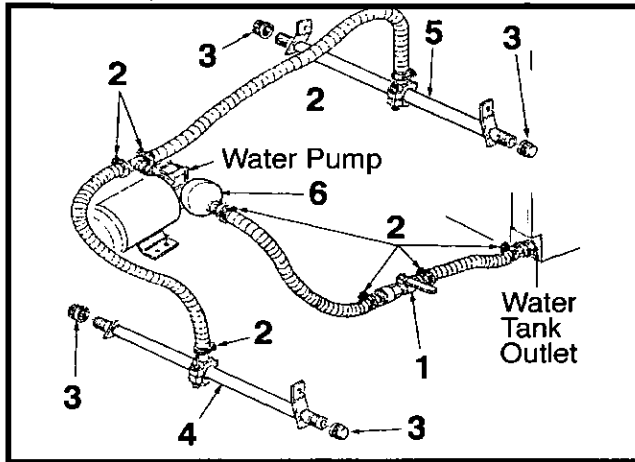

Figure 5-30 Water Spray Bars and Hosing
1. Close Water ON/OFF valve (1, Figure 5-30)
6. Remove each water tubing as necessary by releasing hose clamps (2, Figure 5-30), clean/flush out any sediment buildup.
7. Clean/replace the inline water filter (6, Figure 5-30).
11. Open water control valve (1, Figure 5-30) and check water flows from all spray bar jets to effectively wet the drum width.